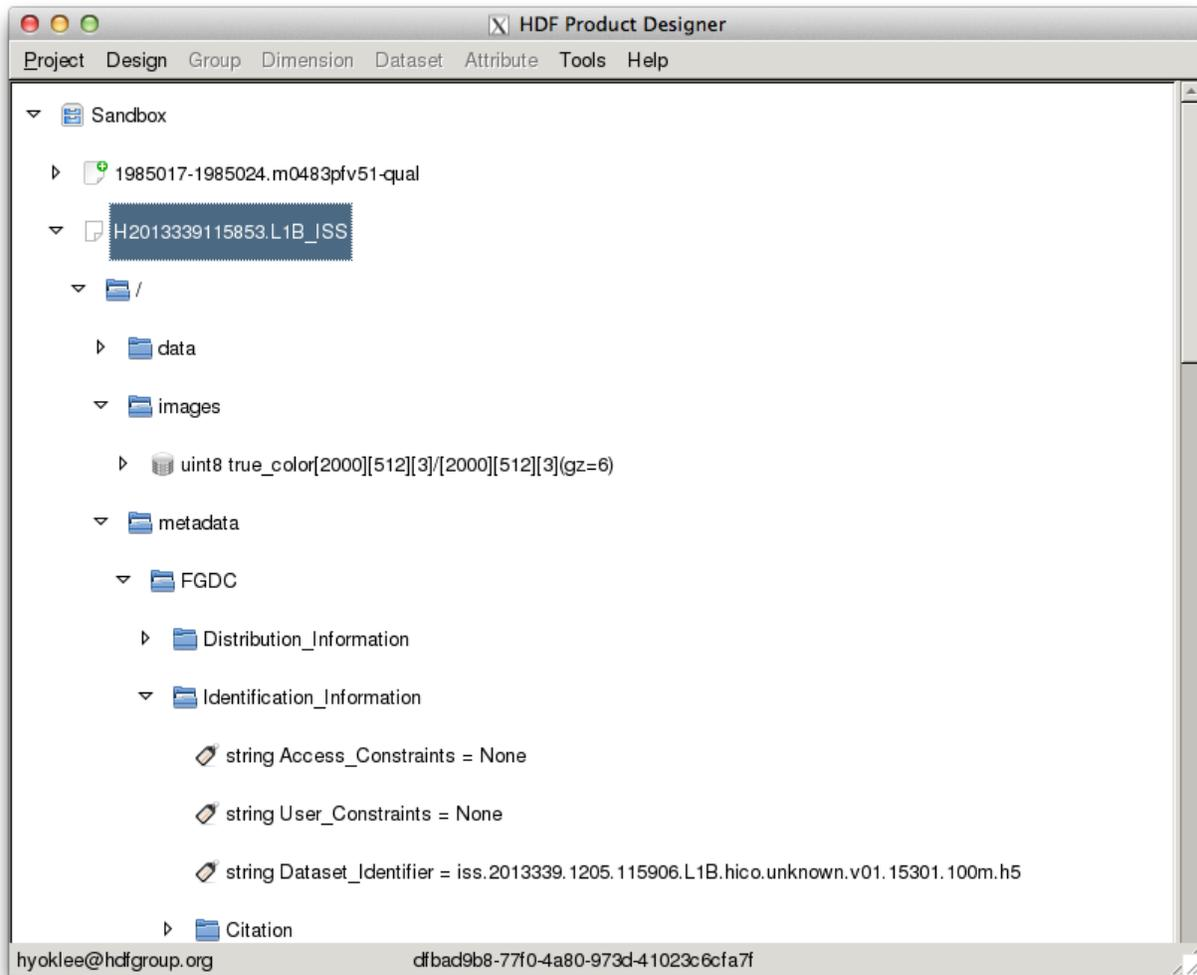

Fig. 5.7: Updated tree view in HPD Desktop during HDF5/JSON file import
4. HPD Desktop will start loading the design from the file. It will update tree view dynamically during import (Fig. 5.7) by scrolling down the view automatically as the tree grows. The importing process is completed when the scrolling stops. Inspecting the import is recommended at this point.
4. Press the **Open** button. HPD Desktop will start loading the design from the file. It will update tree view dynamically during importing (Fig. 5.7) and the tree view control will scroll down automatically as the tree